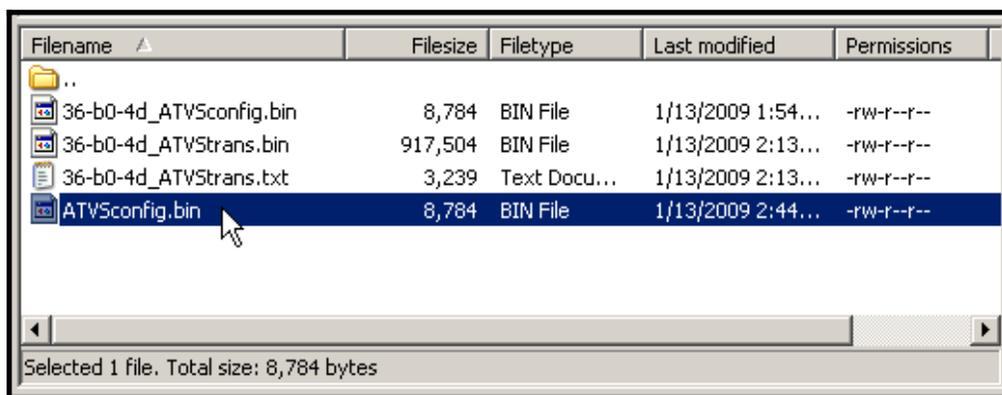

Figure 4-25: FTP Server Configuration & Transaction Files
At the same time a Backup transaction text file is created, a Backup transaction binary file is also created. This binary file can be used by the Restore utility to restore the transaction database in a clock. This should only be necessary if the clock’s flash memory was reset. The following figure shows a Backup configuration and transaction file for the same clock on an FTP Server. In the illustration, the first file labeled “36-b0-4d_ATVSConfig.bin” is the configuration file for that clock. The highlighted file (see *Figure 4-25*) called “ATVSConfig.bin” is the shared configuration file for multiple clocks. This file can be used by the included TS-3000i Utility on the CD to copy this configuration to multiple clocks.
- Step 3.** Select the radio button for “**Are you are restoring this clock based on shared settings or is it specific to this clock only?**” The choices are: **Specific**, or **Shared**. Select **Specific** if you are restoring only the clock you are connected to. Select **Shared** if you are using the shared settings file (possibly a different clock) to transfer to this clock. See Figure 4-25 for an example of a shared configuration file. The shared file does NOT have the MAC address. It is important to note, that when restoring a clock all the information will be changed except for the clock name. The current name in the clock will remain unchanged so that clock retains this unique identifier.